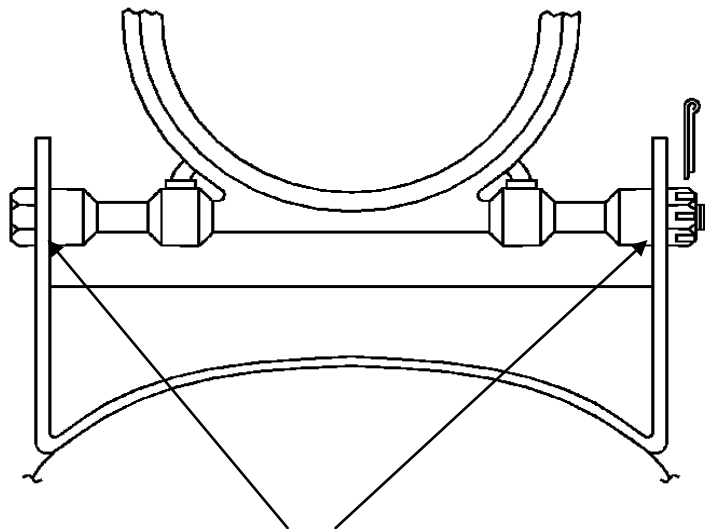

Figure 3, Shim Placement greater than 0.010\"/>
5. If the measured gap is greater than 0.010 in., peel shim into two shims that have a combined thickness that is the same as the measured gap within 0.002 in. and their individual thicknesses are within 0.004 in. Install one shim between the bearing hanger and the bearing support on each side of the bearing hanger (Figure 3).